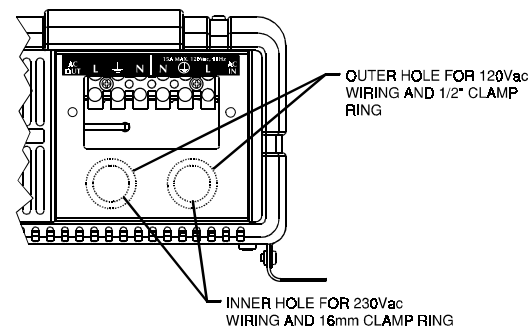

Figure 3. AC wiring terminals (hardwire versions only)
Figure 3 may be a useful reference as it illustrates the AC wiring connection terminals for Sine Wave Inverter models that are AC hardwire configured.
2. Remove the knockouts from the cover of the wiring compartment to create holes for your cable clamps (see Figure 3).